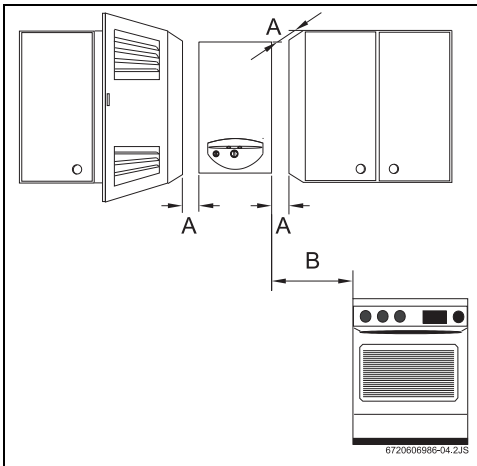

Fig. 13 Minimum distances
- ▶ Respect the minimum installation measurements indicated in Fig. 13.
- ▶ Ensure adequate access for maintenance work, respecting the minimum distances indicated in Fig. 13.